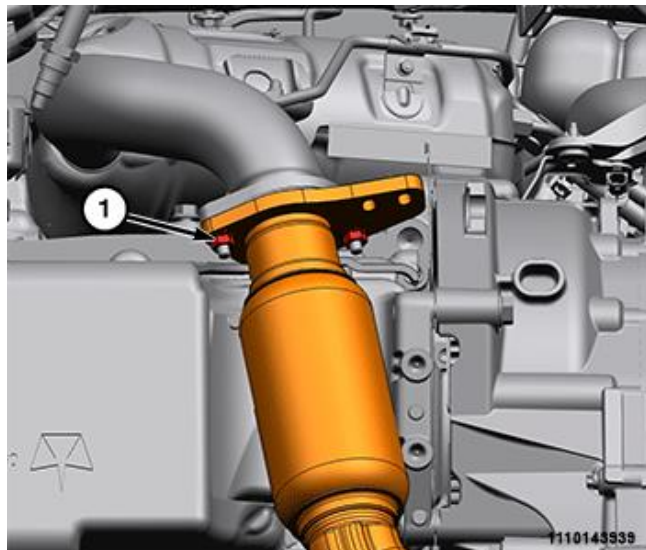

Figure 45 – Catalyst Flange Fasteners
- d. Remove and **DISCARD** the flange nuts (1) securing the crossunder pipe to the Catalyst (Figure 45).